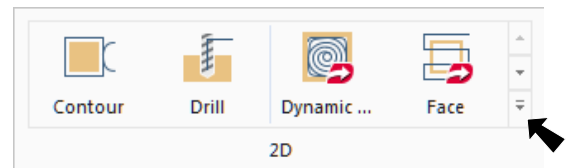

Fig. 92
Step 2. On the Toolpaths tab **TOOLPATHS** in the 2D group click **Expand gallery** button and click **Circle Mill** **Fig. 92**.